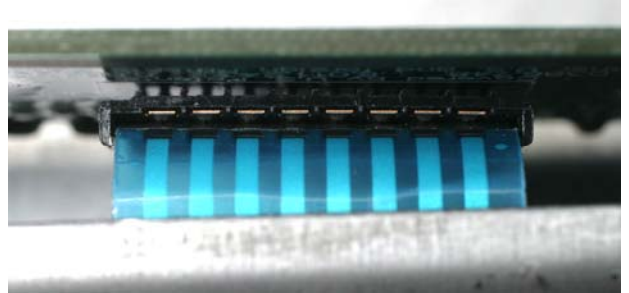

Figure 4: The ribbon cable is shown fully seated in the connector block on the display side of the board.
9. Position the removed circuit board, with the displays facing down, above the ribbon cable on the new display assembly. **See Figure 4.**
10. Ensure the ribbon cable is resting against the connector block on the board and push with the board until the ribbon cable is fully seated in the terminal. **See Figure 4.**